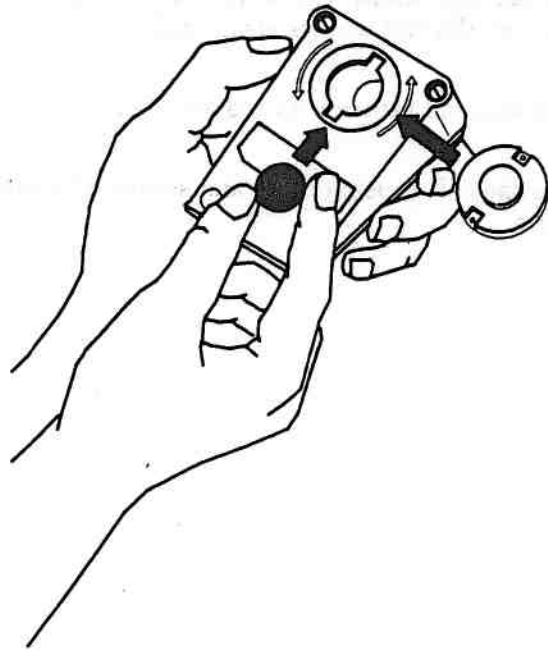

Figure 5-77. Mouse Housing
1. Locate the ball housing cover (Figure 5-77).